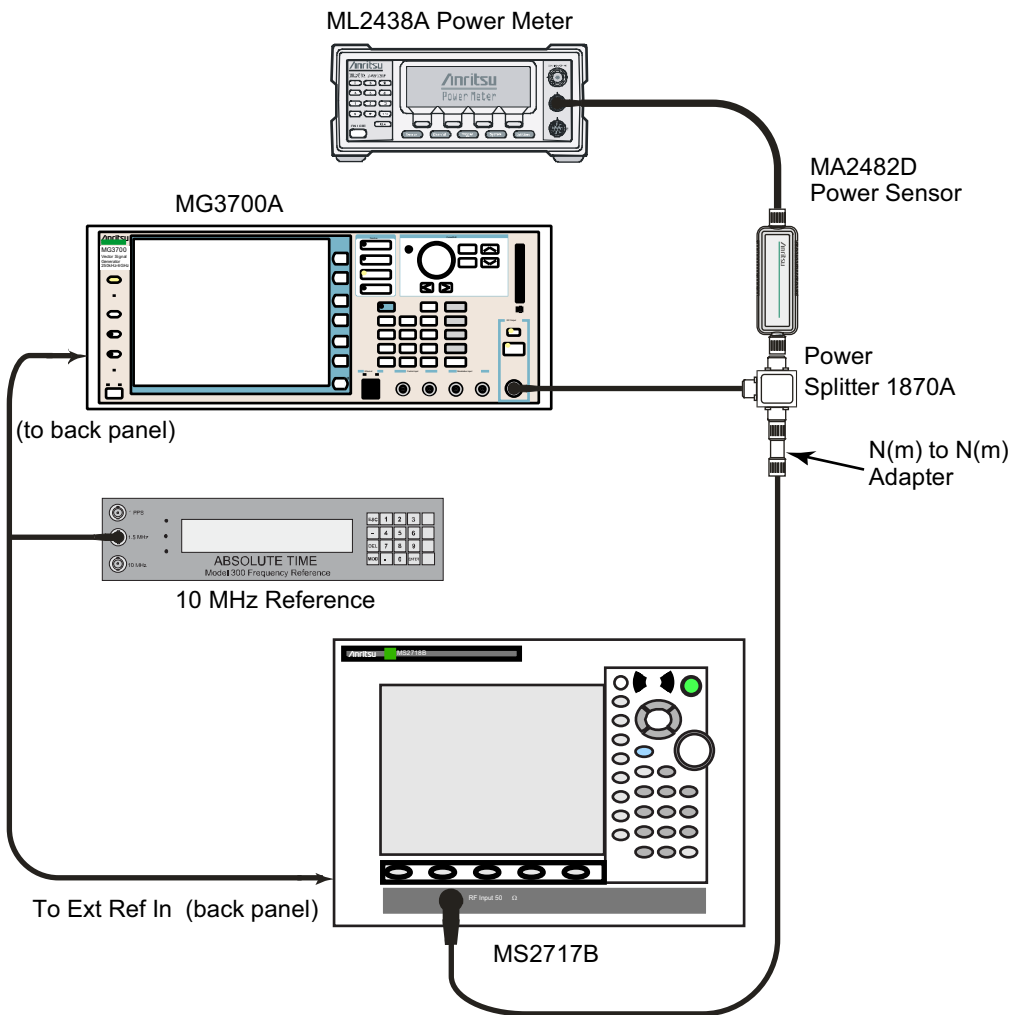

Figure 3-2. CDMA Signal Analyzer Option Verification
2. Connect the equipment as shown in Figure 3-2.
4. Set the MS2717B mode to CDMA Signal Analyzer. Press **Shift** and press **Preset** (1) to preset the MS2717B.
1. Ensure that the equipment settings are unchanged from the previous test. Refer to Figure 3-2.